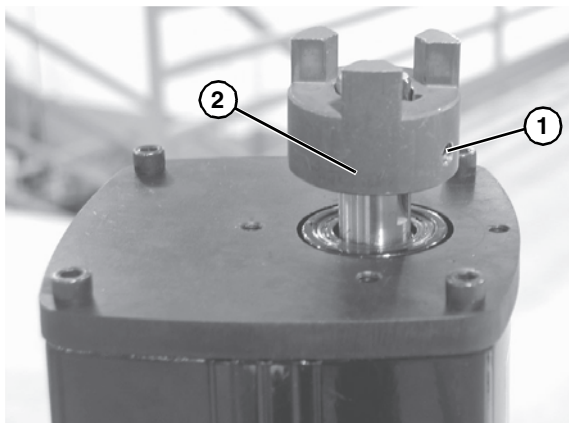

Figure 14
3. Loosen set screw (**Figure 14, item 1**) and remove 3 jaw coupling (**Figure 14, item 2**).